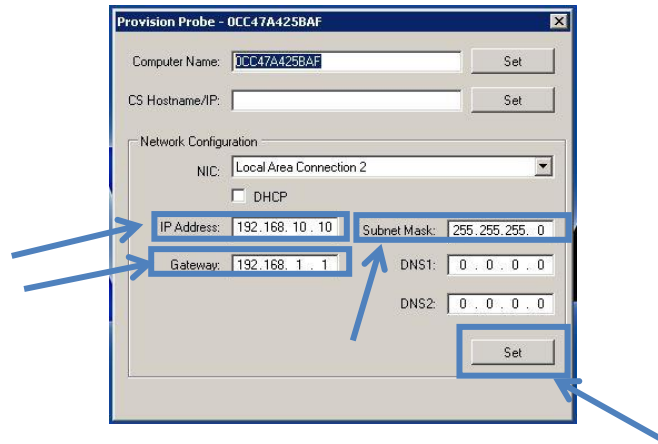

Figure 8.2.6. Provision Probe.exe – Scout Network Settings.
- k. Next, enter the IP Address, Gateway, and Subnet Mask as defined by Comcast into the corresponding fields and hit “Set” as shown in Figure 8.2.6.